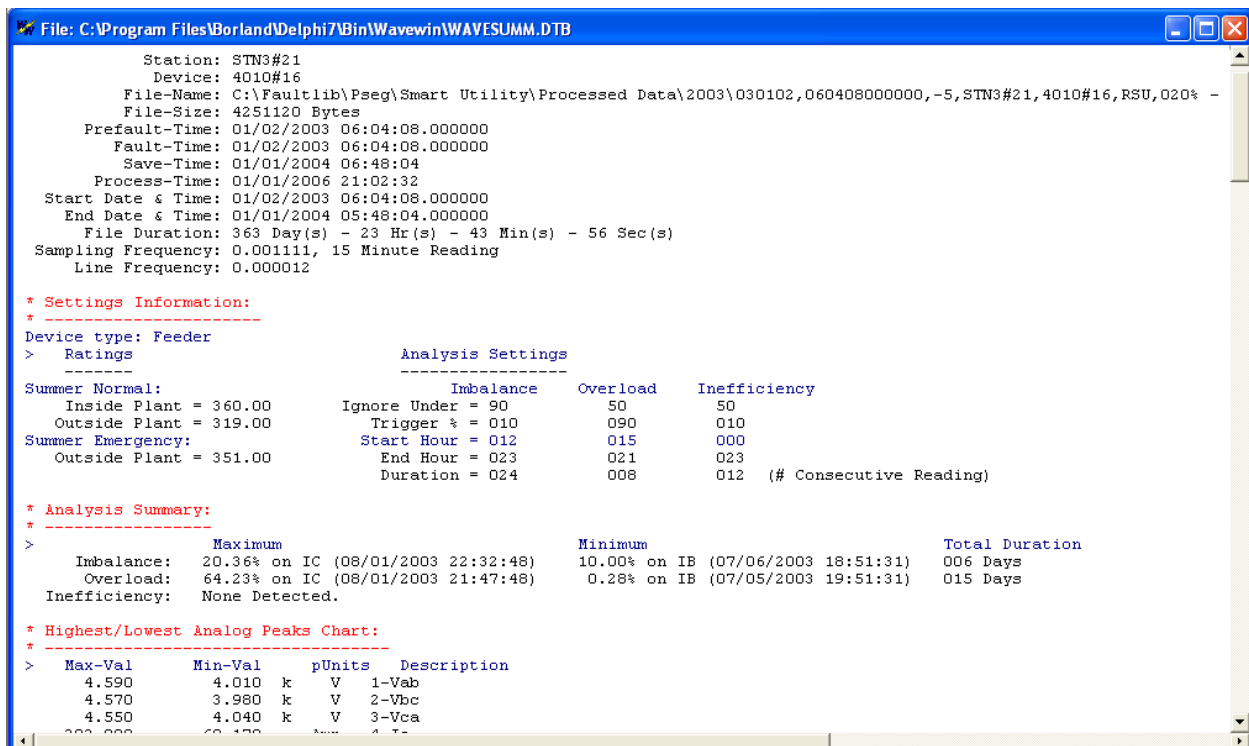

Figure 4.24 Load Device Summary
- **Device Summary** – The device summary files list all the general information for the file, the maximum and minimum values for imbalance, overload & inefficiency, the maximum and minimum values for each analog channel and SOE for the digital channels. Refer to Figure 4.24.